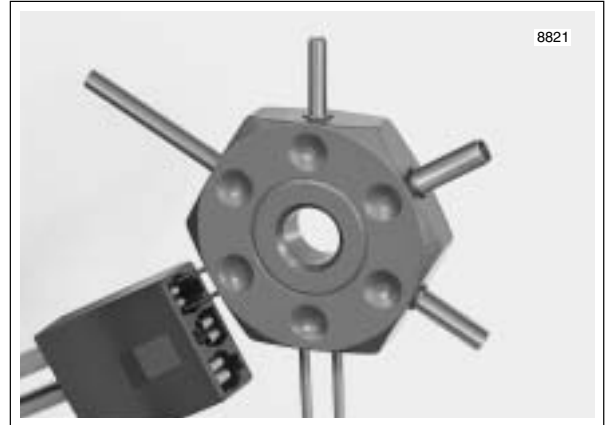

Figure B-38. Depress Tangs and Remove Terminal
1. Obtain terminal pick (Snap-on® GA500A) like that shown Figure B-38.